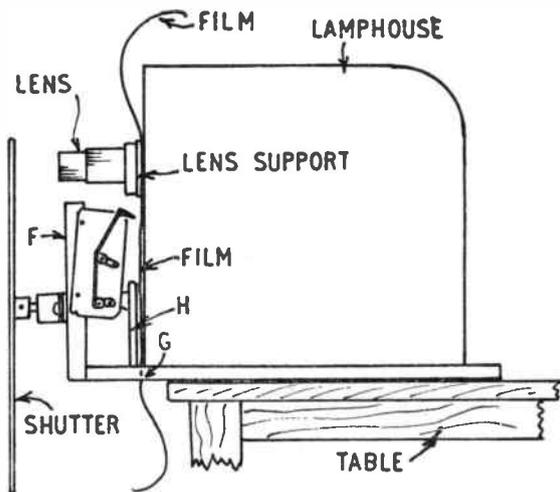

Fig. 4—Side view of projector
Fig. 4 shows one side of the projector, and each side is made of  $\frac{1}{4}$  in. wood, 5ins. by 5ins. To gain access to the lamp, etc., the whole lamphouse, with top and back, lifts off, leaving the front, with lens support, etc., in position. A single piece of thin metal forms both top and back, being 4ins. wide and just under 10ins. long. No ventilation is required for battery operation, but this will be necessary if a mains bulb is used, as will be explained.
A little adjustment may be necessary to get the working parts correctly placed, and the piece holding the transport movement may be slanted in a little, as in Fig. 4, so that the film is properly engaged. The top screw can then be driven in.
it may be found that the film does not come to rest with each picture squarely in the aperture, but the bottom of one frame is seen with the top of the next. If so, then the piece (F) in Fig. 4 is unscrewed, and moved slightly downwards. Once the correct position is found any projecting wood can be sawn off, and this piece screwed securely to the base, as no further alteration will be required, even with other films.
Cartoon or other movie film strips can be used, and these do not really require winding spools. The length of film can be fed in from above, passed down between lens-support and lamp-house, past the claw movement, and out through a slot cut in the base, at (G) in Fig. 4. A thin strip of wood (H) prevents the film forming a loop forwards, where the crank might foul it. This strip is screwed to the front of the lamp-house, a piece of thick card or thin